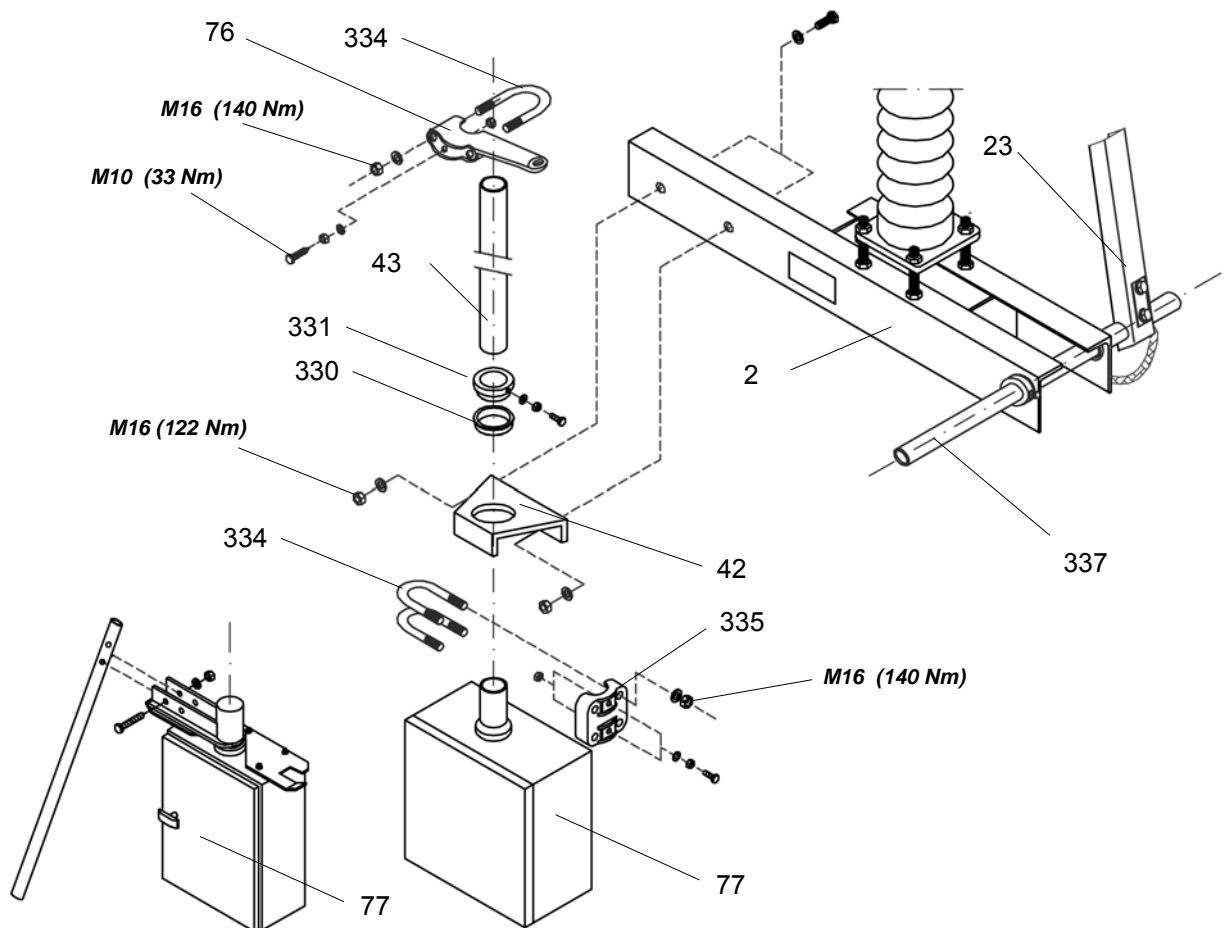

Figure 15: Mounting of operating mechanism for earthing switch, separate mounting
11. Repeat operating steps 5. and 6., threading thrust bearing (330) and collared bush (331) in correct sequence onto the operating shaft
14. Connect shaft end of operating mechanism and operating shaft (43) to coupling parts (334, 335)
15. Mount operating lever (76) on upper end of operating shaft (43) [Fig. 15]